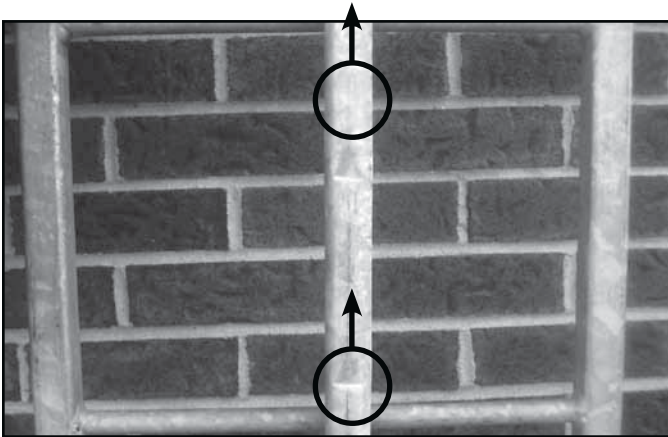

FIGURE 9 NOTCHES INSTALLED CORRECTLY (POINTING UP)
2. Notches must be pointed up the ladder. The SAF-T-GRIP™ SLEEVE will not engage during a fall if the notches are pointing in the wrong direction (see figures 9 and 10).
5. Make sure that the hardware is installed correctly (Figure 9 shows galvanized rail and Figure 10 shows stainless and aluminum rails).